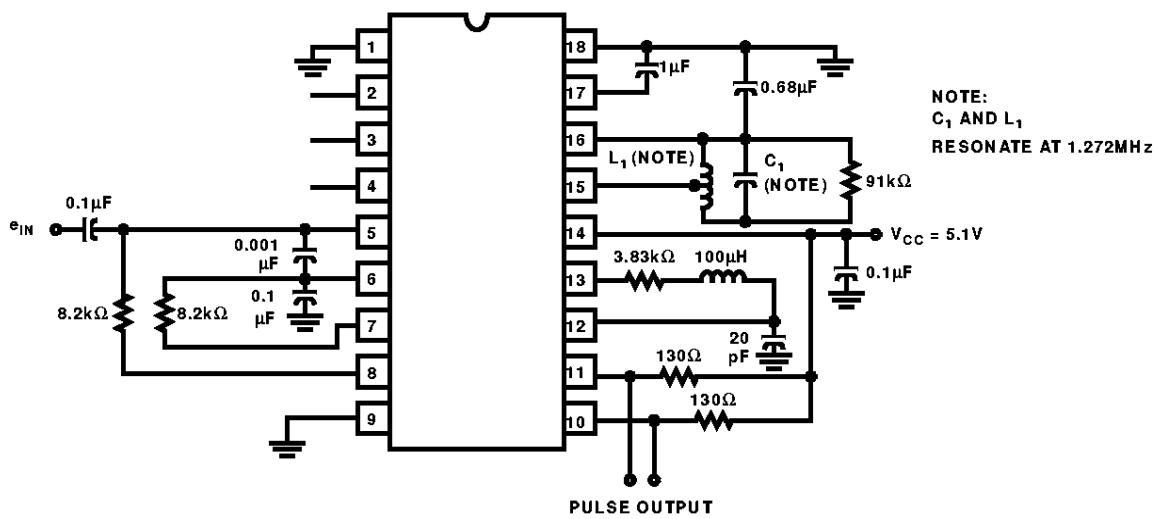

FIGURE 4. DC AND OUTPUT PULSE TEST CIRCUIT
**Electrical Specifications**  $T_A = 25^\circ\text{C}$ ,  $V_{CC} = 5.1\text{V} \pm 5\%$  (See Figure 4)